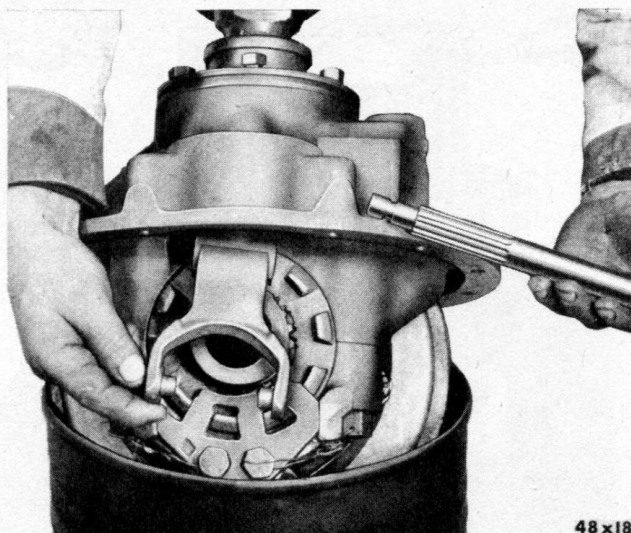

Fig. 63—Removing or Installing Shift Fork and Shaft
- (3) Pull out shift fork shaft. Then, the shift fork may be slipped from the sliding clutch gear and removed through the back of the differential carrier (Fig. 63).